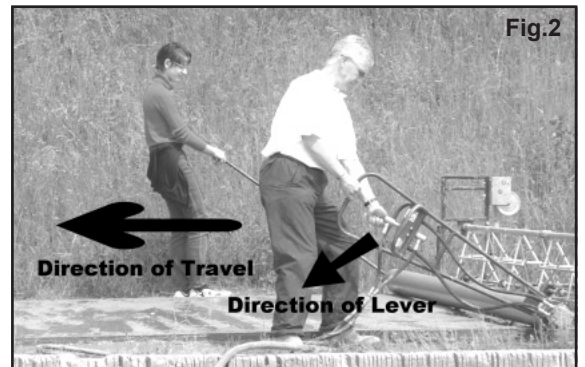

Fig.2
3. Ensure that you move the control lever to the correct position for the direction of travel (See Fig. 2)
5. To start the roller striker, move the Control Lever slowly to the **DRIVE** position as indicated below (See Fig. 2)
Fig.2 shows the Pneumatic Control Lever in the **OPEN** position, with arrow indicating direction for **CLOSED** position.